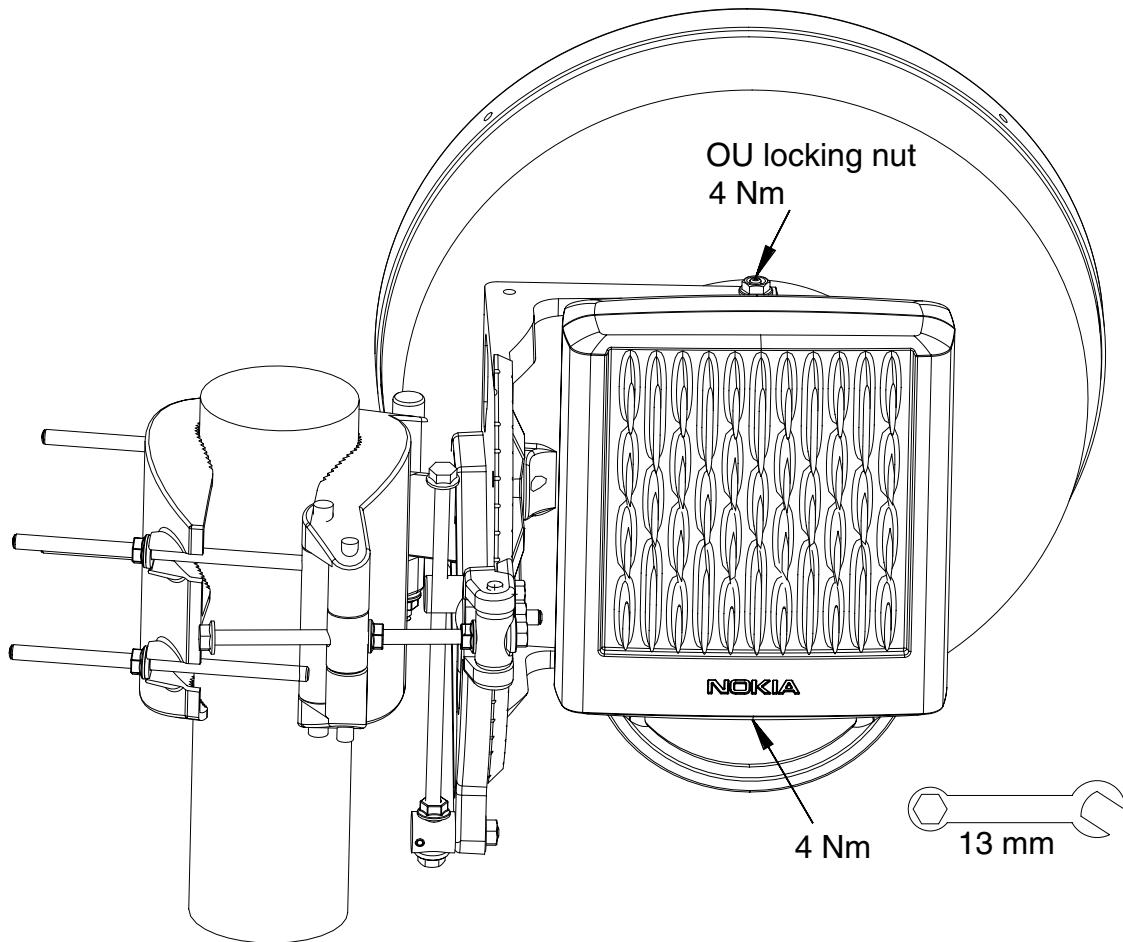

Figure 6. Mounting the outdoor unit on the alignment unit (vertical polarisation)
4. Tighten both the OU locking nuts, first manually and then with a spanner (see Figure 6). The torque is 4 Nm.